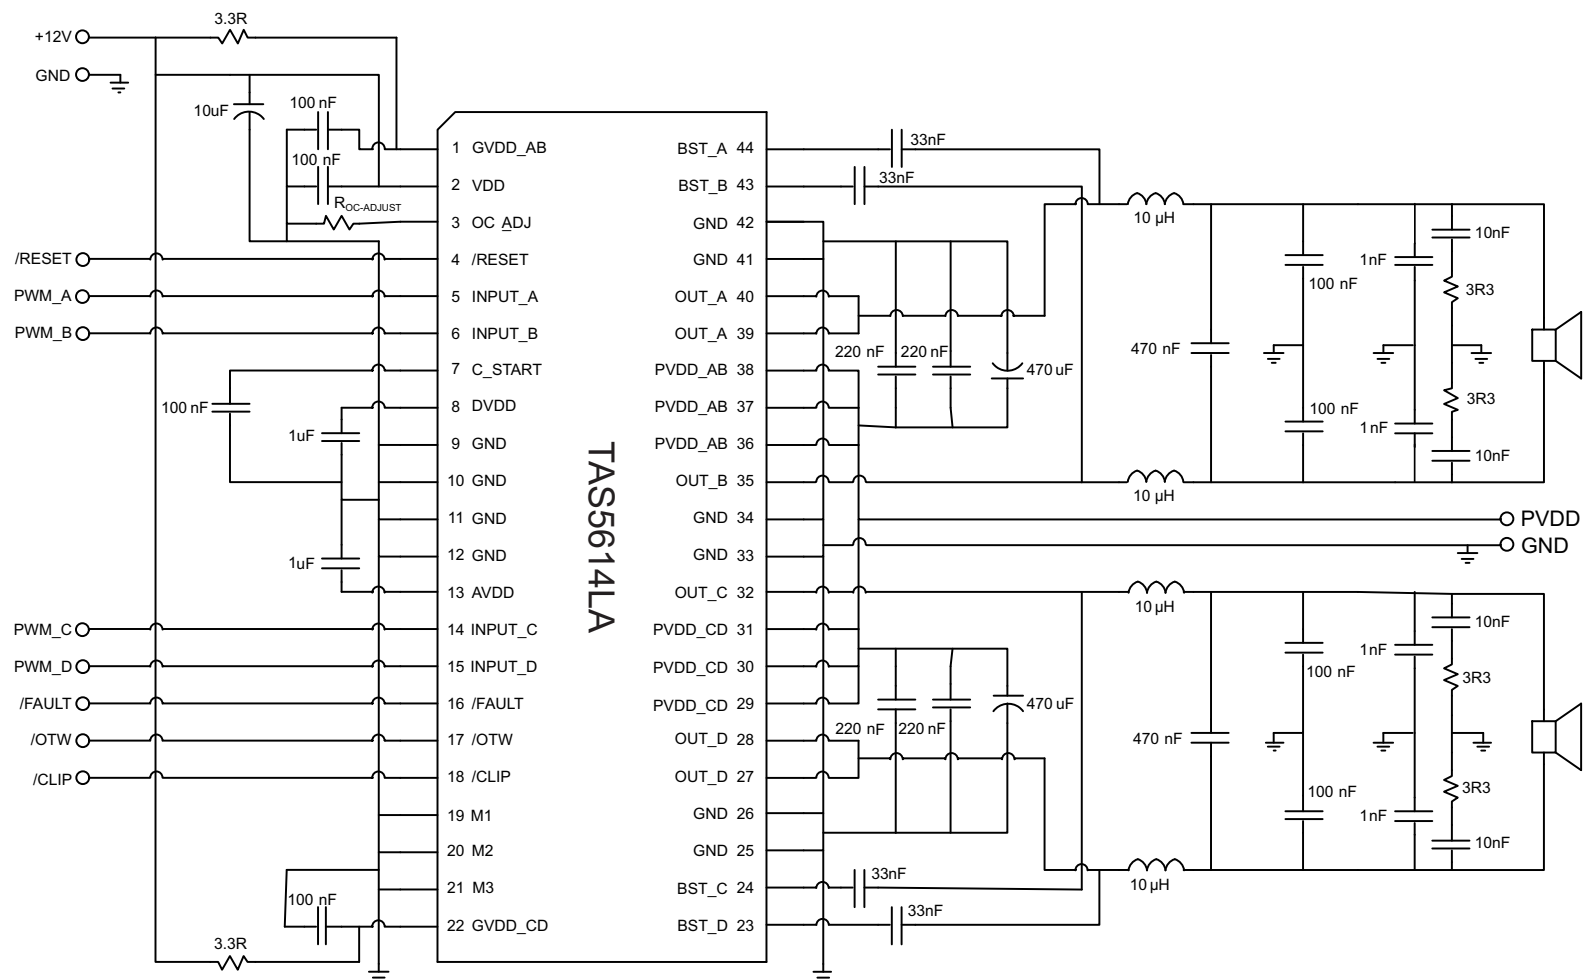

图 16. Typical Differential (2N) BTL Application With AD Modulation Filters
See 图 16 for application schematic. In this application, differential PWM inputs are used with AD modulation from the PWM modulator (TAS5558). AD modulation scheme is defined as PWM(+) is opposite polarity from PWM(-).
- Pins 27, 28, 32, 35, 39, 40 - Output pins from half-bridges A, B, C, and D. Connect appropriate bootstrap capacitors and differential LC filter as shown in 图 16.
- Pins 29, 30, 31, 36, 37, 38 - Power supply pins to half-bridges A, B, C, and D. A and B form a full-bridge and C and D form another full-bridge. A 470-uF bulk capacitor is recommended for each full-bridge power pins. Two 0.22-μF decoupling capacitors are placed on each full-bridge power pins. See 图 16 for details.